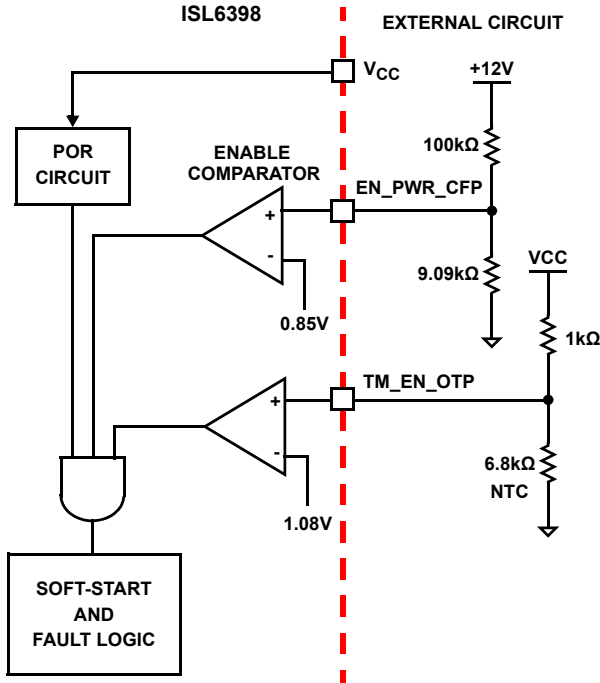

FIGURE 14. POWER SEQUENCING USING THRESHOLD-SENSITIVE ENABLE (EN) FUNCTION
2. The ISL6398 features an enable input (EN\_PWR\_CFP) for power sequencing between the controller bias voltage and another voltage rail. The enable comparator holds the ISL6398 in shutdown until the voltage at EN\_PWR\_CFP rises above 0.85V. The enable comparator has about 100mV of hysteresis to prevent bounce. It is important that the drivers reach their POR level before the ISL6398 becomes enabled. The schematic in Figure 14 demonstrates sequencing the ISL6398 with ISL99140 DrMOS and the ISL66xx family of Intersil MOSFET drivers.